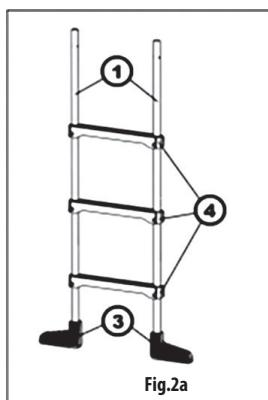

Fig.2a
Press all plastic treads (4) on the two pairs of stiles (**Fig. 2a**) taking care to maintain the same orientation of all treads.